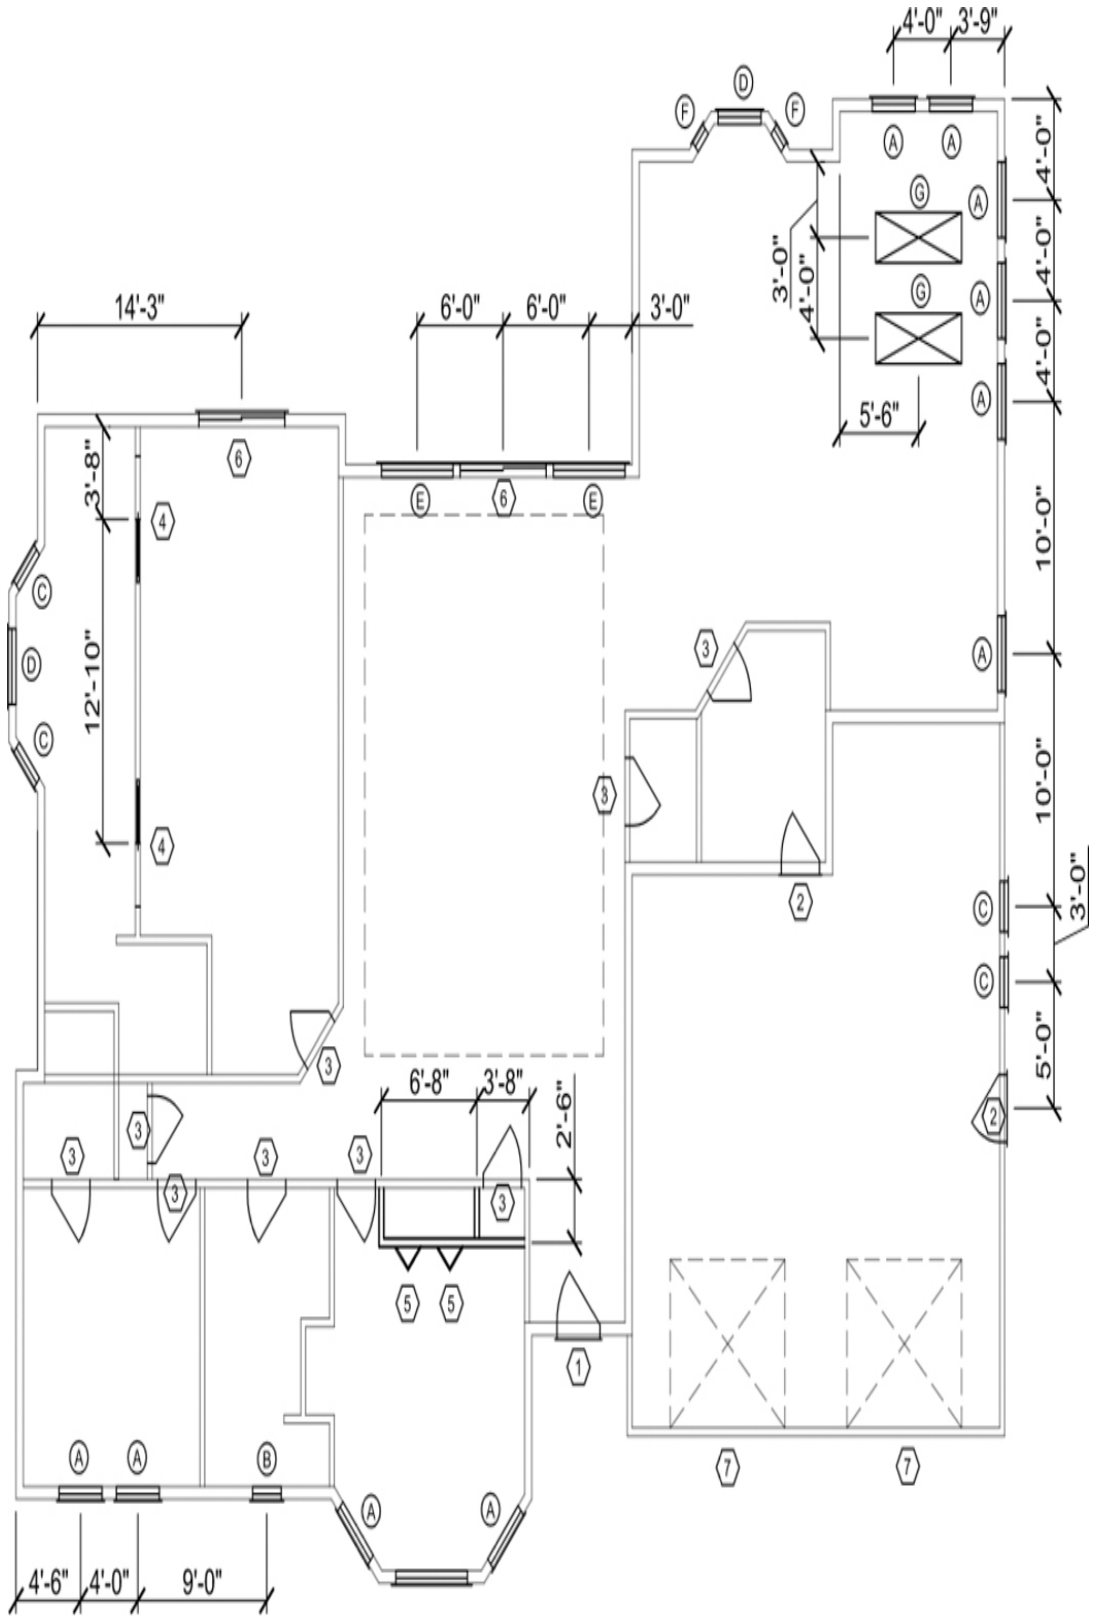

Figure 7-56
3. Add the walls and place the doors and windows as shown in Figure 7-56 according to the schedules. Use appropriate object snaps to ensure the proper placement of the symbols. Doors and windows that are not dimensioned are either centered on the interior wall or located 3" from the nearest wall. *Hint:* Use the **Offset** option of the **XLINE** command to locate the door and window symbols.